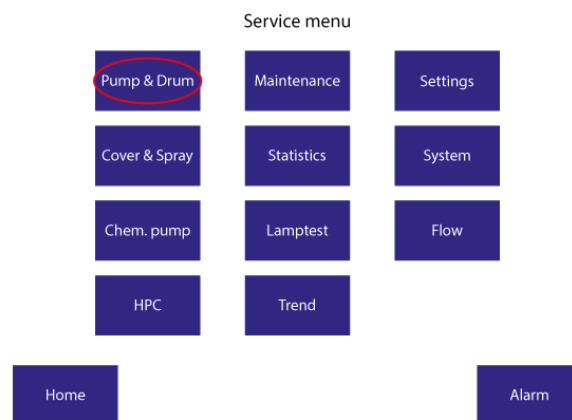

Figure 6.11 Service menu.
4. Select “Pump & Drum”, see Figure 6.11.